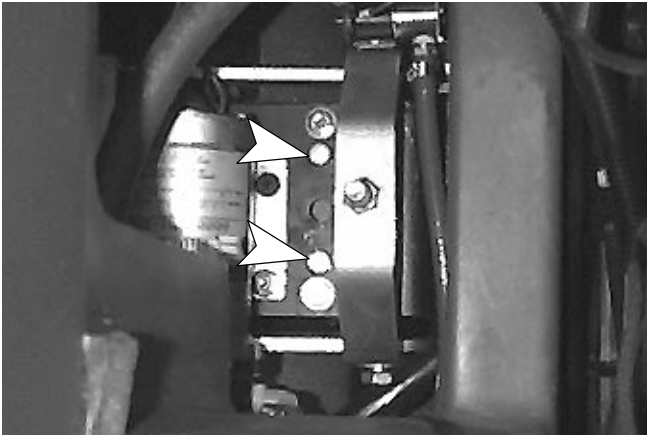

FIG. 27
4. Then turn the two adjustment screws an equal amount of turns as shown (clockwise to raise). It is very important that screws are turned an equal amount, otherwise the brush will tilt causing premature brush wear and ineffective cleaning (Figure 27).